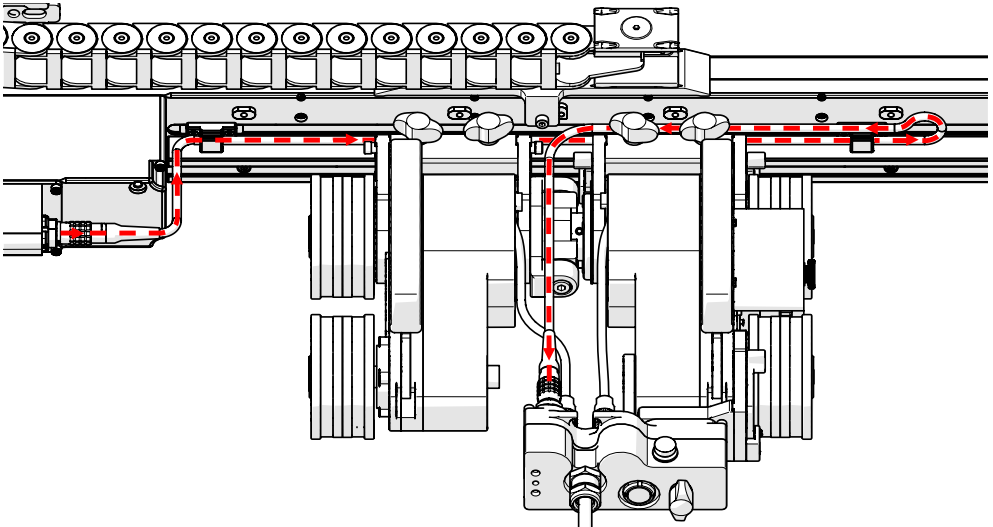

Fig. 112 - Raster arm cable routing
1. Plug the supplied raster arm cable into the raster arm's connector (Fig. 112) located on the raster arm encoder housing. Pinch the cable into the first cable bracket on the side of the raster arm encoder housing.